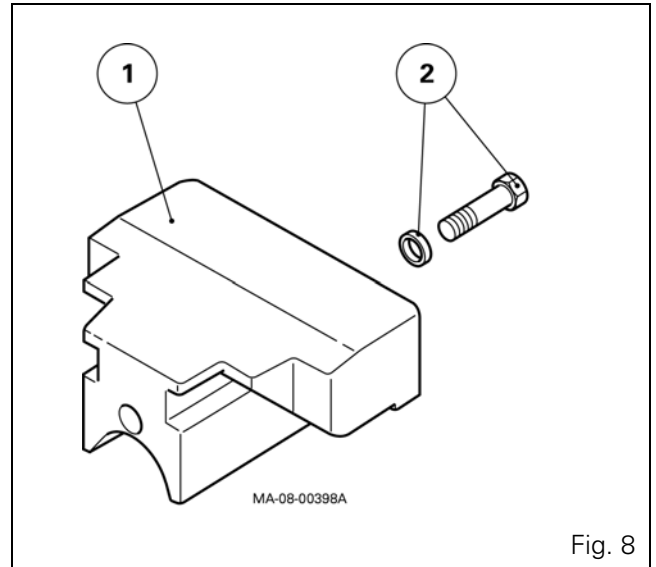

Fig. 8
- The centre weight (1) (Fig. 8) (if fitted) is attached under the front frame and may hinder the removal of bearing support.
- remove the screws (2) (Fig. 8),
51. Refit the centre weight. Tighten bolts (2) to a torque of 420 - 560 Nm (Fig. 8), after lightly smearing the threads with Loctite 270 or equivalent. Refit the front weights (depending on equipment fit).